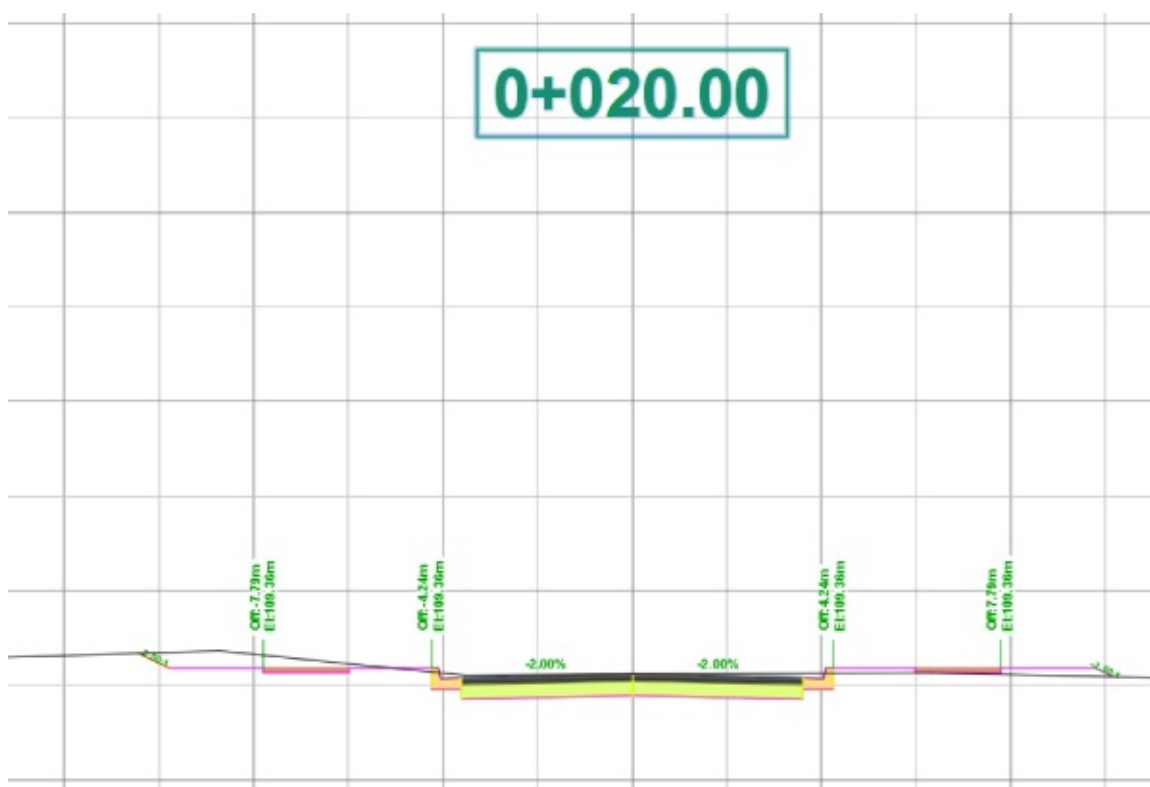

Figure 18.57 New code set style applied to the : section view
10. Click OK again to complete the changes to the Section View Group Properties dialog. Your section view should resemble Figure 18.57.